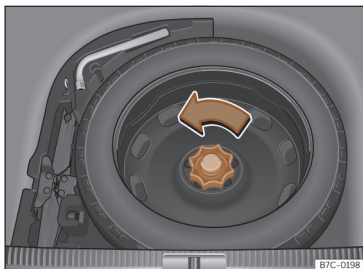

Fig. 233 In the luggage compartment: raised load floor.
- Turn the thumb wheel anticlockwise >>> Fig. 233.